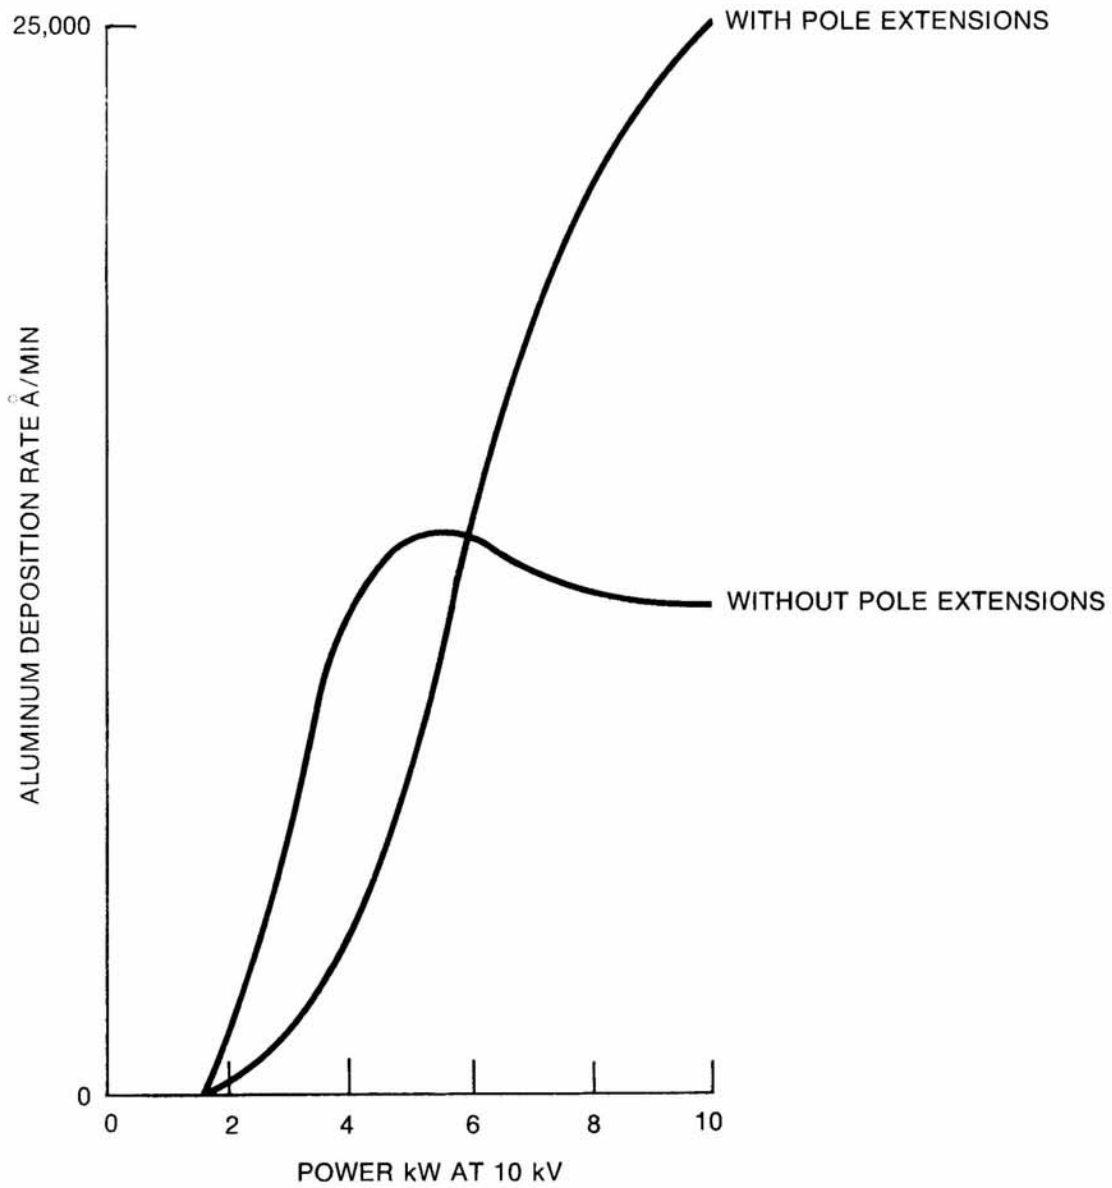

FIGURE 5
2. For low temperature evaporants, such as aluminum, beam size and hence pole positions vary according to power and rate required. Refer to Figure 5 for typical rate/power characteristics with and without pole extensions.